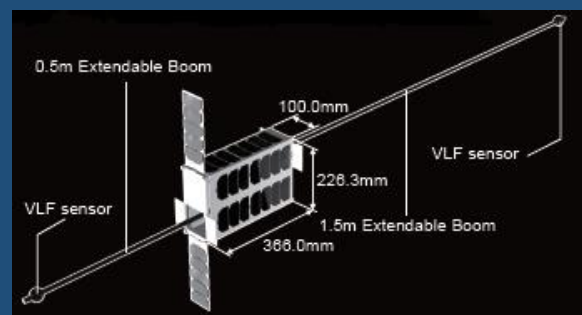

Fig.7 Prelude
- I was mainly in charge of developing software such as sensor subsystem of HEPTA-Sat. So I participated in some exhibition like Maker Faire as a explainer(Fig.7) and some workshops as a Teaching Assistant(Fig.7).
- Prelude stands for “**P**recursory **e**lectric field observation **c**ubesat **d**emonstrator”(Fig.7).